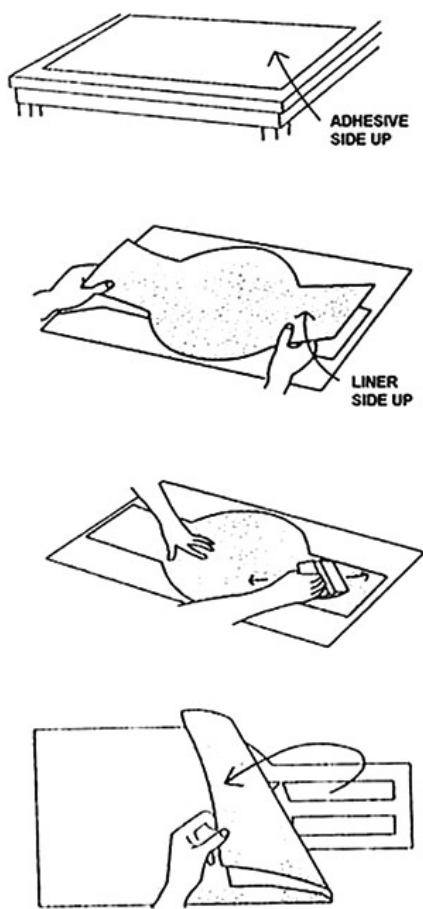

Figure 5-23. Use of application tape.
2. Tape method - Large or intricately shaped decals can be applied with application tape, as shown in figure 5-23. If you receive a decal that is not already pre-masked, place the application tape, with the adhesive side up, on a flat, rigid surface. Align the decal and place it with the film side down on the adhesive tape. Starting in the middle of the decal, squeegee the application tape with firm strokes. As mentioned earlier, decals created on a computerized machine are applied using transfer tape. After you remove the unneeded vinyl, or weed it, place it face up on a hard surface and apply transfer tape directly to the front of the decal, being careful to avoid bubbles or wrinkles. Once you have a decal with application tape applied to it, you can apply the decal to the surface using the hinge method.